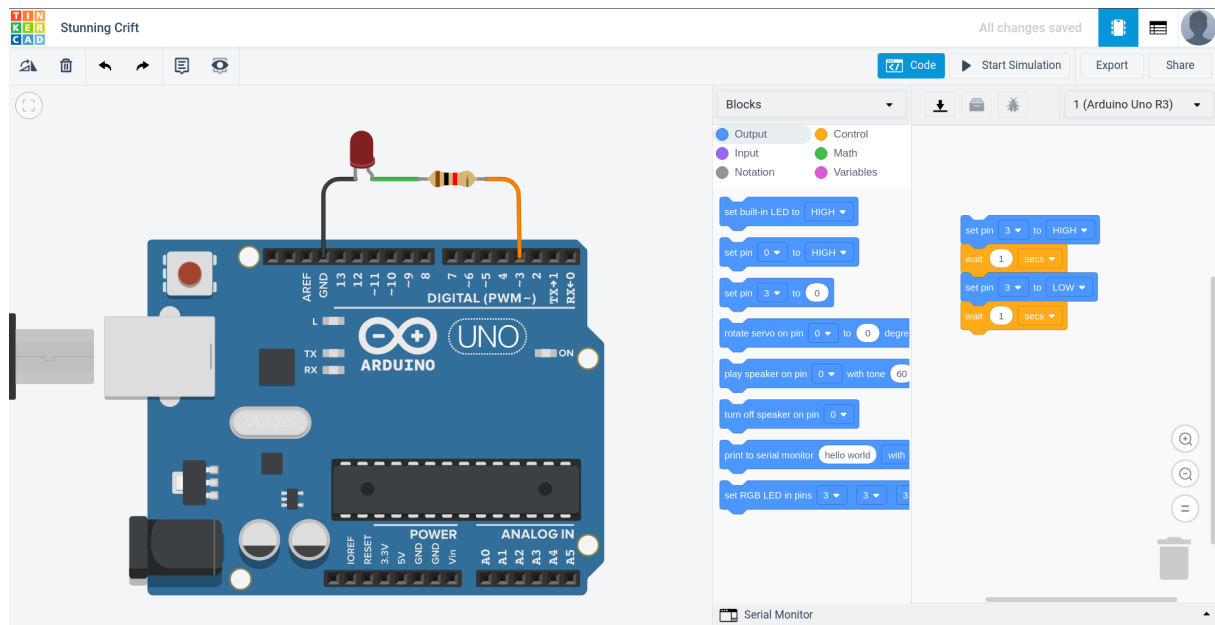

Figure 2.1: Blink example in Thinkercad.
2. Try to add your own LED on the different output pin and change the program like is shown on the fig. 2.1 to make it work (LED must blinking).